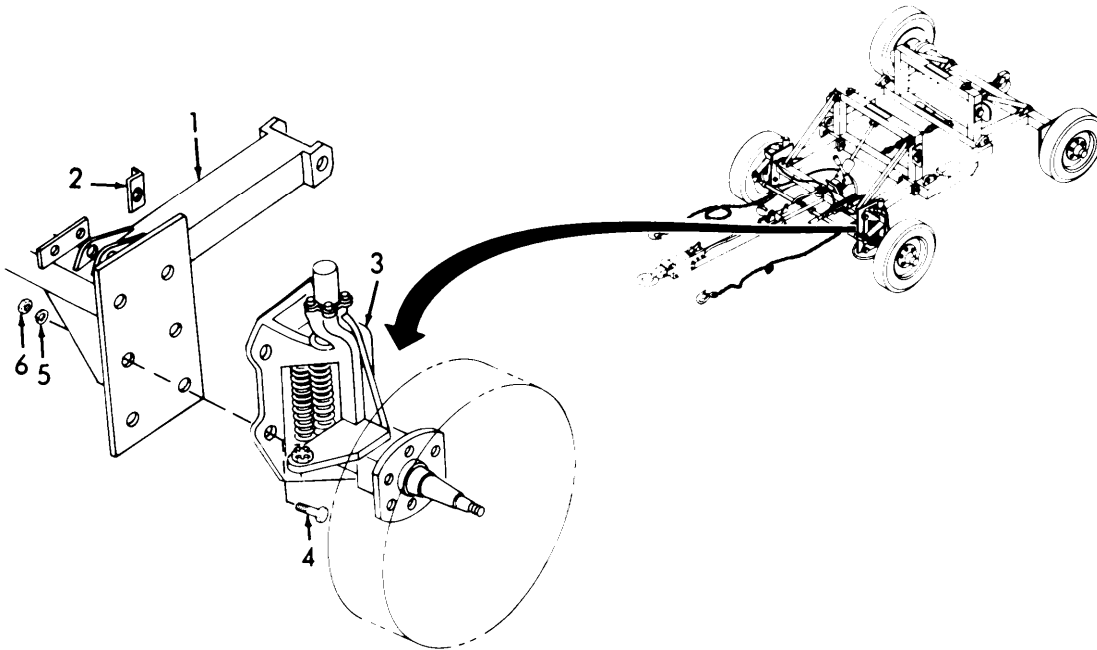

Figure 3-28. Shock Absorbing Spring Assembly, Installation.
- (1) Install shock absorbing spring assembly on front axle frame (1, Figure 3-28).
- (a) Position spring assembly (3) on front axle frame (1).
- (b) Install six bolts (4), six lockwashers (5), six nuts (6), and bracket (2).